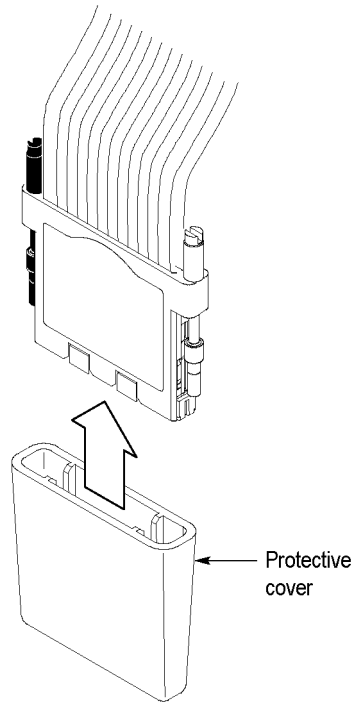

Figure 5: Storing the probe head
- Always store the probe head in the protective cover when not in use. (See Figure 5.)